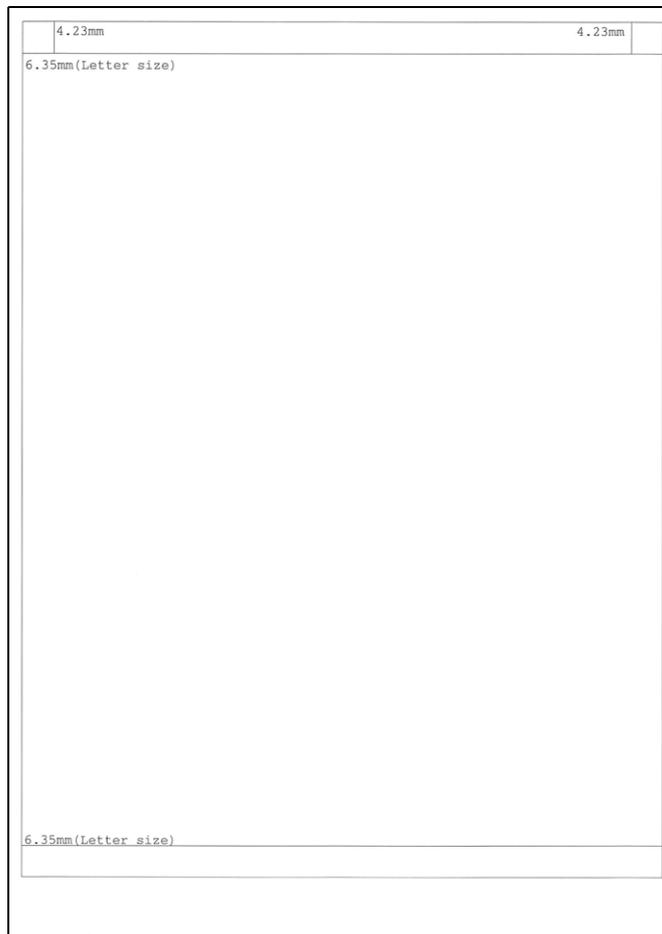

Fig. 5-16
(4)	The frame pattern (see Fig. 5-16 below) is printed.
(5)	The printing is completed.	"WAKU SX"